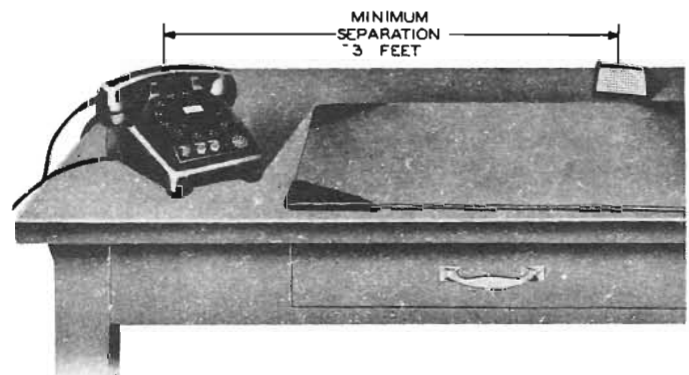

Fig. 1 — Speakerphone System Components with 592B Telephone Set
1.02 Fig. 1 and 2 show typical installations.